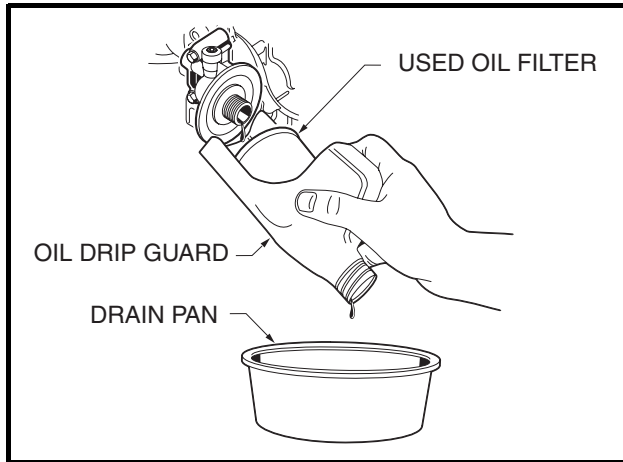

Figure 10-11 Remove Engine Oil Filter
9. Remove the engine oil filter, turning it counterclockwise, allowing the residual oil in the filter port and filter to drain into the oil drain pan (**Figure 10-11, Page 10-13**). **See following NOTE.**